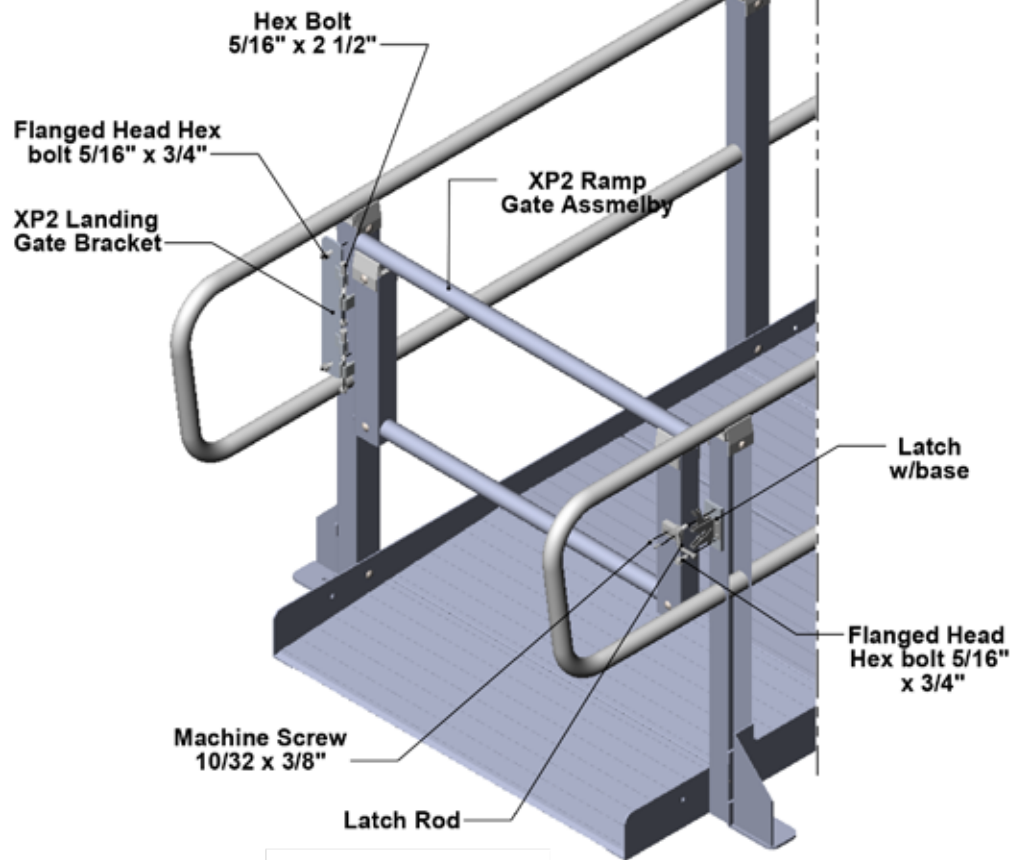
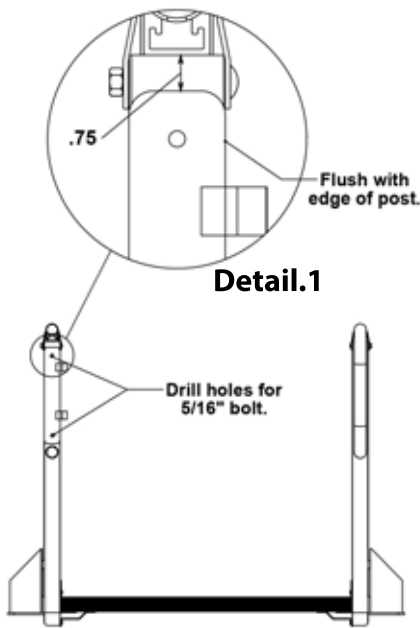

Fig.5.8
Fig.5.9
5.3 Gate Assembly: Place XP landing gate bracket 3/4" down and flush with edge of post (**Detail.1**). Mark holes and drill holes in post for a 5/16" bolt. Attach with 5/16" x 3/4" flanged hex head bolts, washers, and lock nuts. When attaching be sure hinges on brackets face to the inside of ramp section (**Fig.5.9**). Attach latch rod to gate assembly with 10/32 x 3/8" machine screws. Attach gate assembly to bracket with 5/16" x 2 1/2" hex head bolts and lock nuts (**Detail.2**). Gate should swing freely. Do not over tighten. Place latch with base on post approximately 5 3/4" down and flush with edge of post (**Detail.3**). Swing gate over to be sure latch rod engages latch. You may have to move latch up or down to line up properly. Mark holes and drill holes in post for a 5/16" bolt. Attach with 5/16" x 3/4" flanged hex head bolts, washers, and lock nuts (**Fig.5.8**).